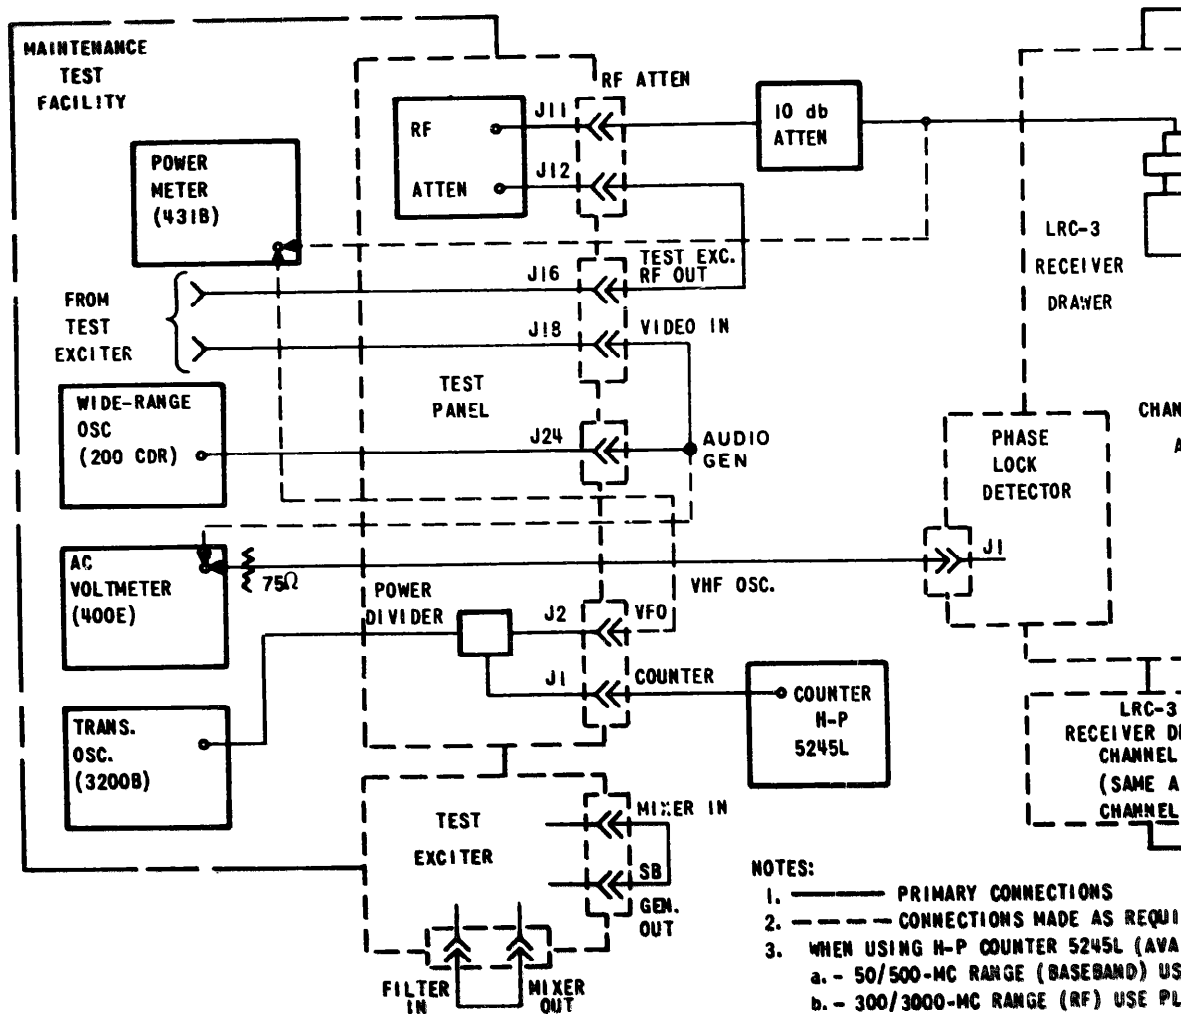

Figure 3-9. LRC-3 Receiver Frequency Response Test, Cable Connections
- b. Connect test cables between the LRC-3 receiver and the Maintenance Test Facility as shown in figure 3-9.